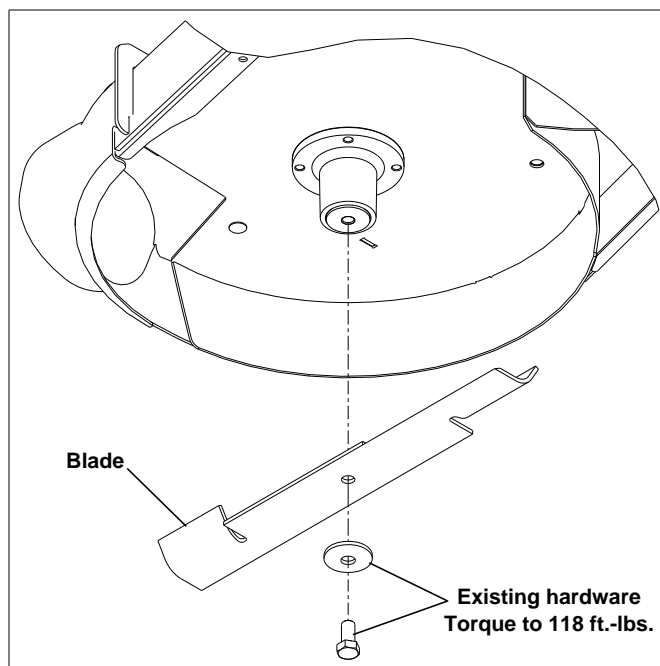

Figure 3-4
- 54\" Decks** – Remove the right blade and replace with the blades included with the catcher. Torque blades to 118 ft.-lbs (160.01 Nm). Figure 3-4